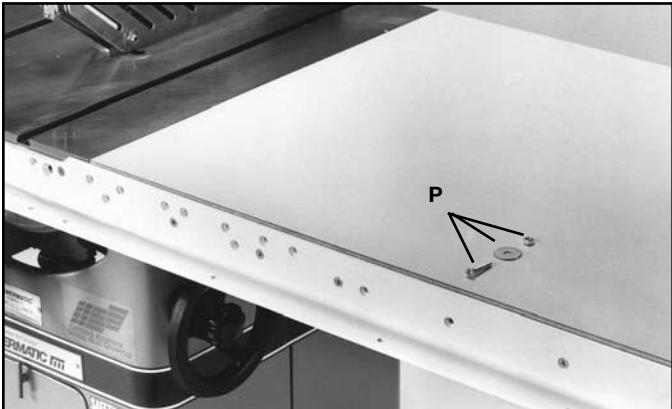

FIG. 21
13. After the holes have been drilled in the front and rear table frame, fasten both front and rear rail to table Fig. 21 using the 1/4-20 x 1-1/2" long flat head screws, fender washers and hex nuts (P) provided.